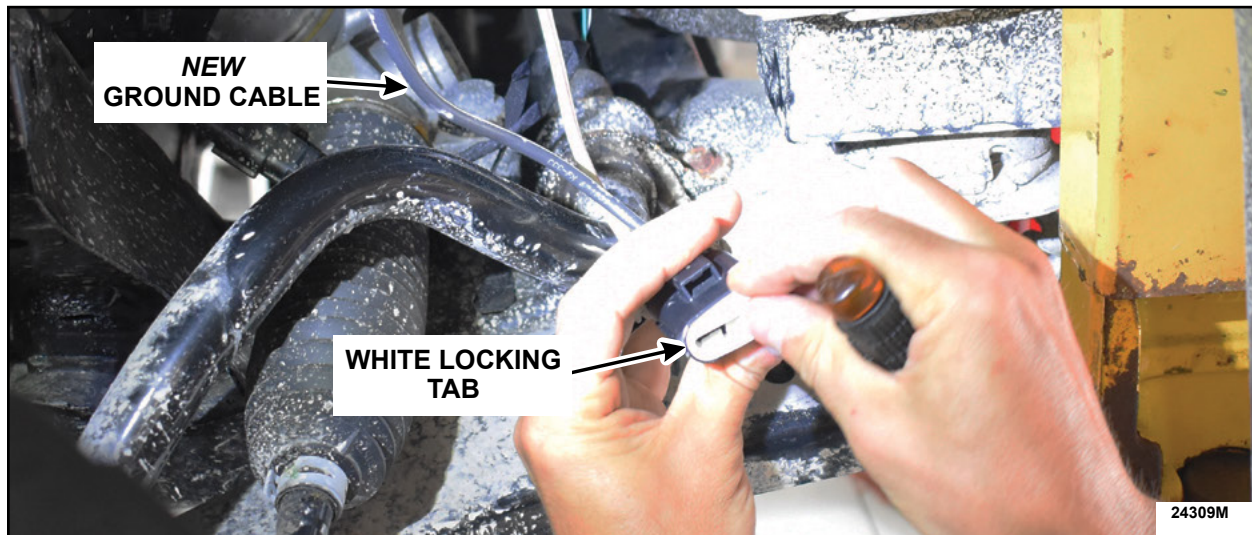

FIGURE 11
14. Insert the blade end of the *new* ground cable into the connector cavity. After the click is felt or heard, lightly pull on the cable to make sure it is fully seated. See Figure 11.